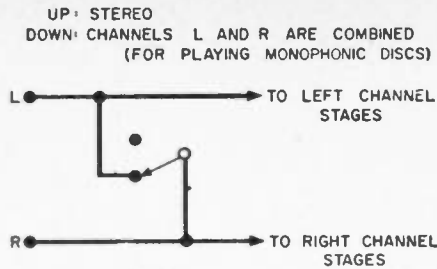

Fig. 11. Switch for combining channels.
3. *Monophonic Disc Switching:* This combines the left and right signals and feeds the sum signal to both channels, as illustrated in Fig. 11. This is desirable when playing a monophonic disc with a stereo cartridge because the audio (lateral) signals are added in-